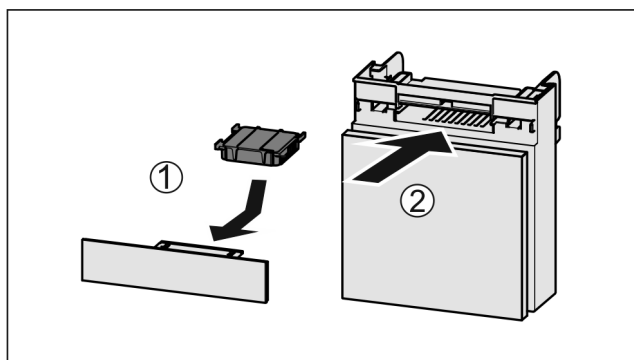

Fig. 234
- Insert the carbon filter as shown in the diagram Fig. 234 (1).
- Push the compartment in Fig. 234 (2).